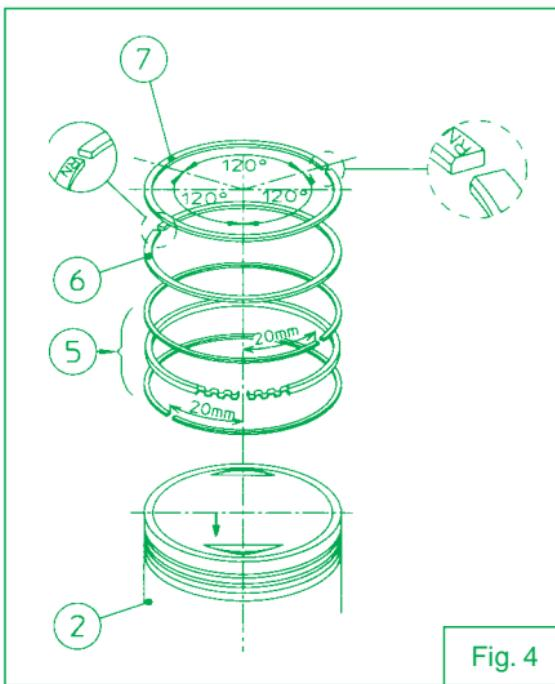

Fig. 4
ATTENTION: the scraper ring is made of three rings of which two are 0.35 mm in thickness and one is corrugated. All of them must be positioned into the same piston seat, while the one corrugated is supposed to be placed among the two other. (Follow instruction as per Fig. 4).
- 5) Position the piston rings onto the piston according to Fig. 4.